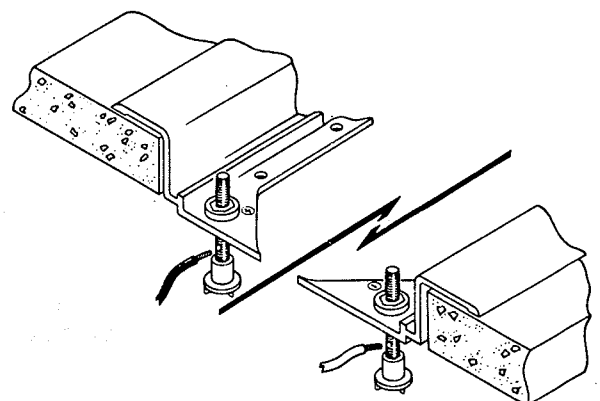

Fig.4
- 4** **CONNECT THE SIGNAL CABLES (fig.4)** to the terminals as indicated in the front and rear of the bezel moulding observing polarity (amplifier + to speaker + and - to -).